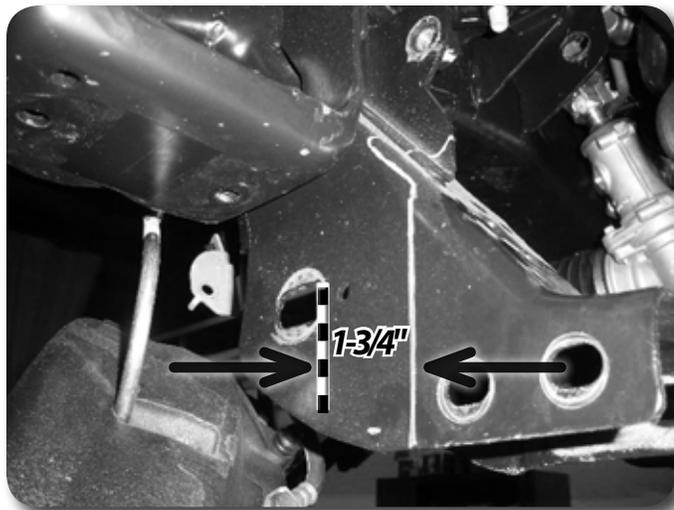

Figure 18
33. On the back side measure from the inside edge of the control arm slot $1\text{-}\frac{3}{4}$ " and mark (Figure 18). Make a vertical cut line at the mark.